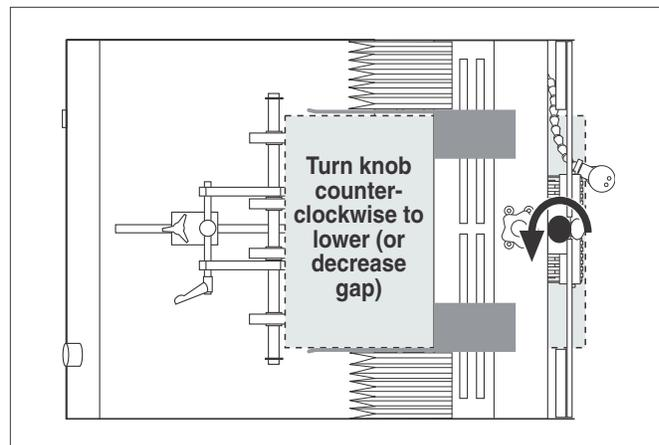

Figure 2-3. Adjusting Gate Assembly for Correct Gap
4. Adjust the knob on the gate assembly until the material has the desired drag: clockwise to increase clearance, counterclockwise to decrease clearance (Figure 2-3).